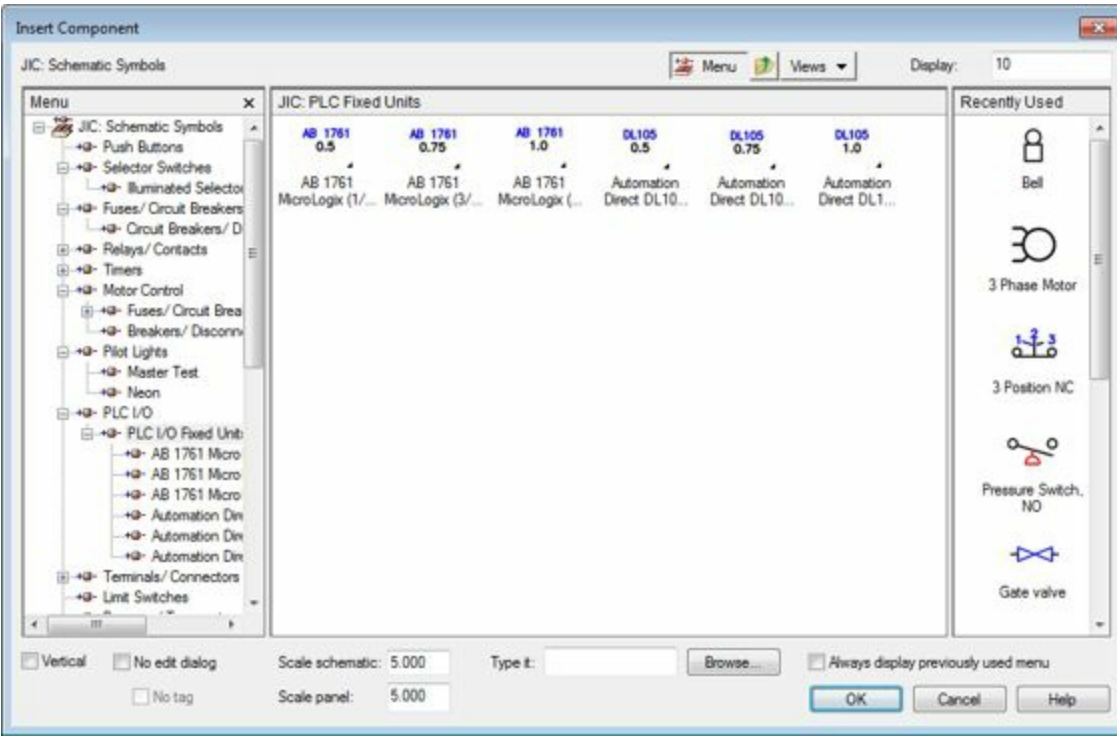

Figure-50. Insert Component with PLC components
- Click on the **Insert PLC (Full Units)** tool from the **Insert PLCs** drop-down in the **Insert Components** panel. The **Insert Component** dialog box will be displayed; refer to Figure-50.